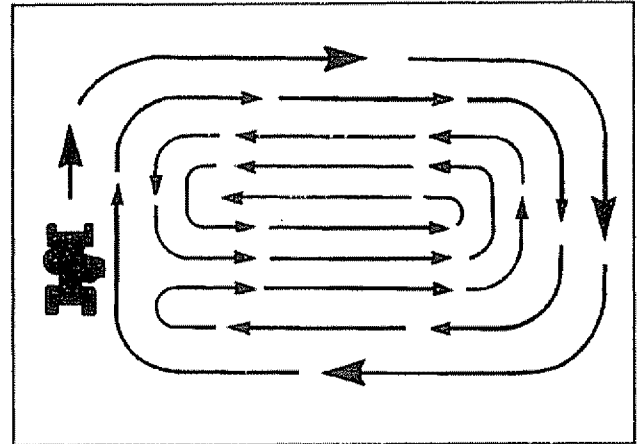

FIG. 12
- When mowing large areas, start in a clockwise direction so clippings will be discharged away from shrubs, fences, driveways, etc. After one or two rounds, mow in counterclockwise direction until finished (see Fig 12).